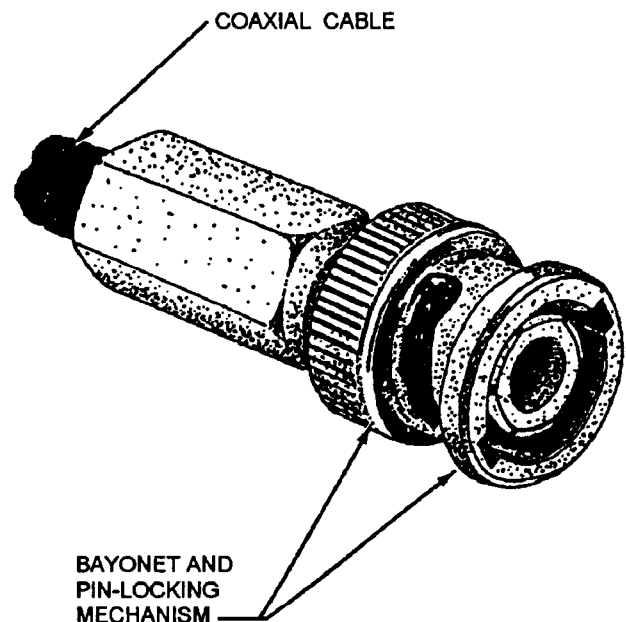

Figure 2-22.—Coaxial connector.
**COAXIAL CONNECTORS.**— Coaxial connectors are designed for single, twin (twinax), and triple (triaxial) conductors (fig. 2-22). Refer to MIL-C-17 for connector specifications. Contacts or pins located on either the receptacle or plug are round and can be male or female. Coaxial connectors are secured bayonet-style (pin and curved slot) to protect against shock and vibration and for quick removal and replacement.